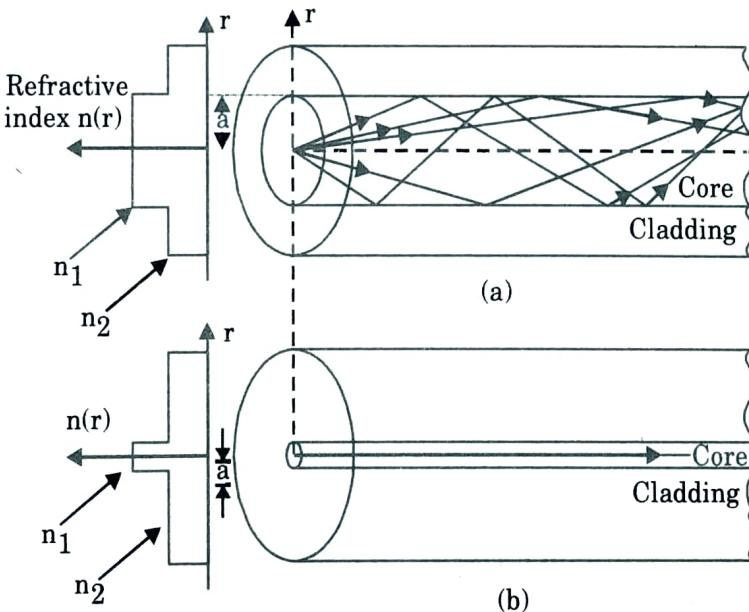

Fig. 1.20.1. The refractive index profile and transmission in step index fibers : (a) multimode step index fiber ; (b) single-mode step index fiber.
5. The Fig. 1.20.1 shows a multimode step index fiber and single mode step fiber. In multimode step index fiber core diameter is around $50 \mu\text{m}$ or greater, which is large enough to allow the propagation of many modes within the fiber whereas single mode step index fiber has a very fine thin core, so that only one mode can be propagated.